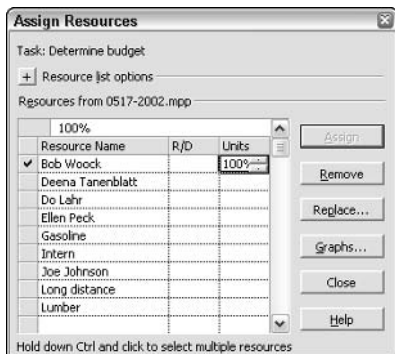
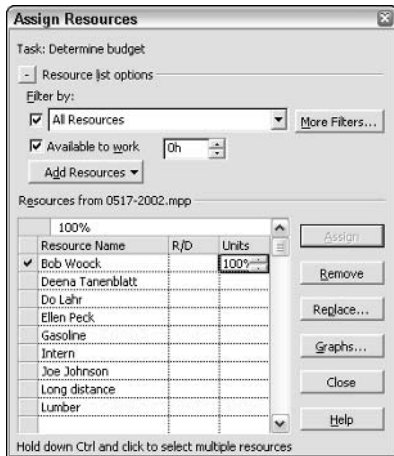

Figure 5-9: Use the Assign Resources dialog box to assign a resource to the task that is identified at the top of the box.
Figure 5-10: You can narrow your search for resources by filtering, and you can make additional resources available.
2. Click the Assign Resources button or choose Tools⇨Resources⇨Assign Resources to open the Assign Resources dialog box, as shown in Figure 5-9.
You may have noticed a plus sign (+) next to Resource list options at the top of Figure 5-9. If you click the plus sign, the box expands, as shown in Figure 5-10, to provide you with ways to make selecting resources easier.